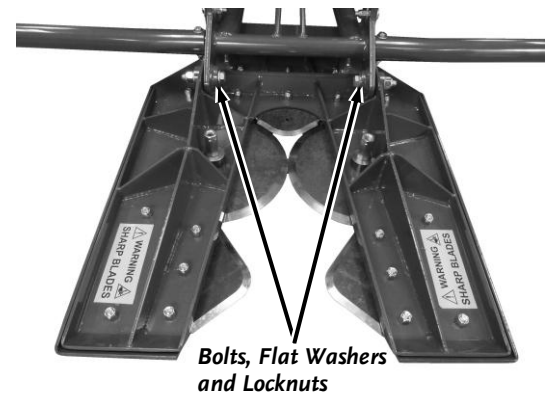

Figure 19
1. Place the Cutter Head Assembly flat on the ground and remove the Bolt, Flat Washers and Locknut from the two pivot points using two 3/4" Wrenches (**Figure 19**).